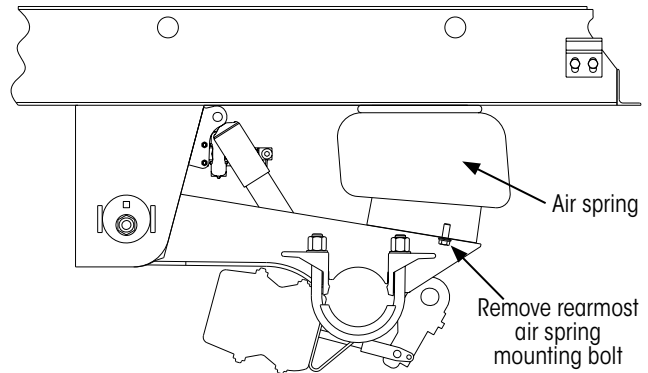

Figure 69: Preparing for rear beam extension installation
2. Remove and discard the rear-most air spring mounting bolt (Figure 69) from both rear suspension beams.